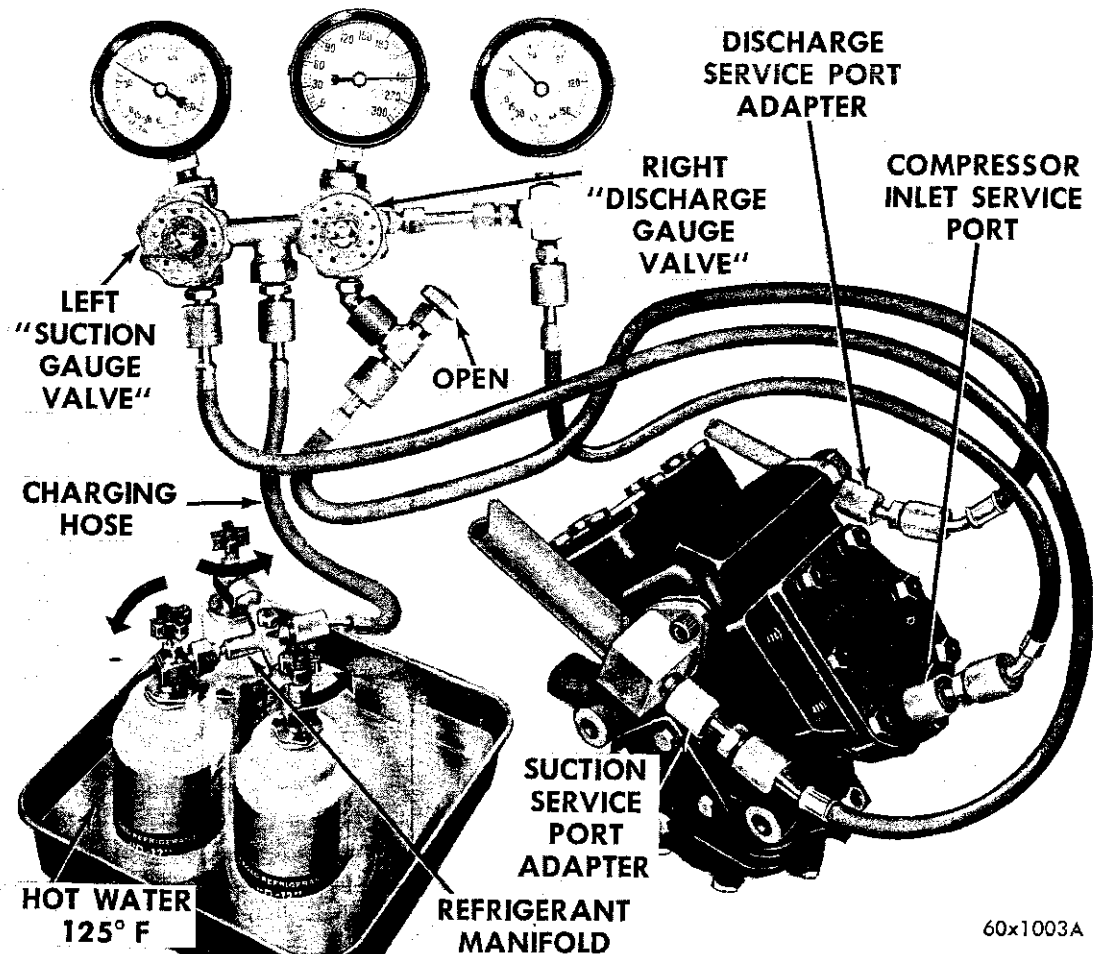

Fig. 52—Complete System Charging
32. CHARGING THE SYSTEM (Fig. 52)